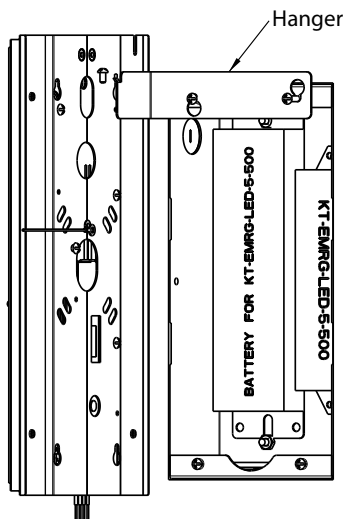

FIG.4
1. Hang **Driver/LED/Wall plate** assembly on **Hanger** as shown in **Figure 4** Energize fixture. Mate battery connection.
1. Hang **Driver/LED/Wall plate** assembly on **Hanger Bracket** as shown in **Figure 4**.